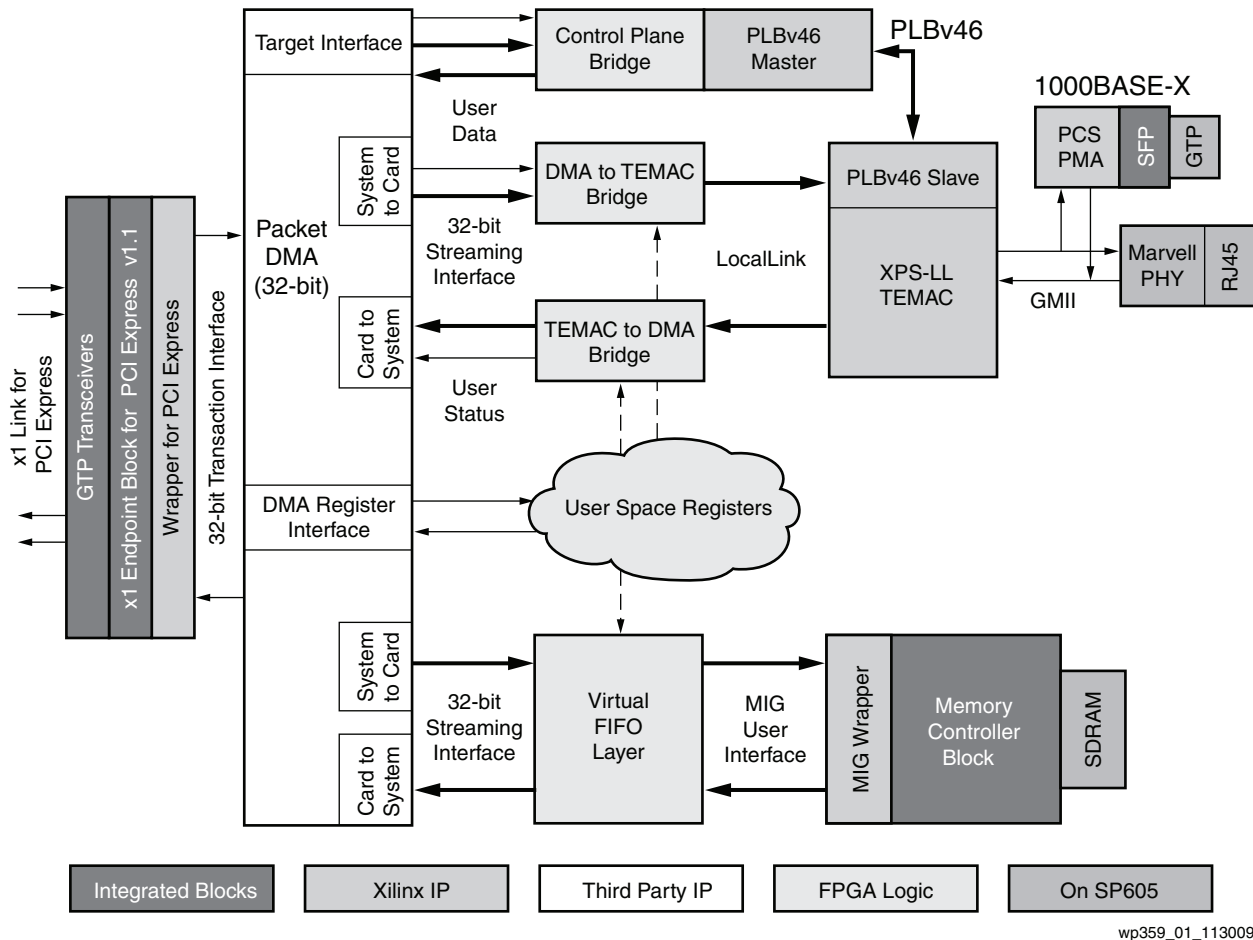

Figure 1: High-Level Diagram of the Spartan-6 FPGA Connectivity Targeted Reference Design
- Memory controller block supporting DDR/DDR2/DDR3 SDRAMs and LPDDR (Figure 1).